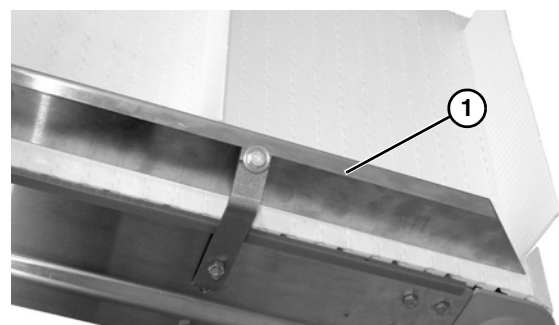

Figure 30
1. Remove guides (**Figure 30, item 1**) when required.